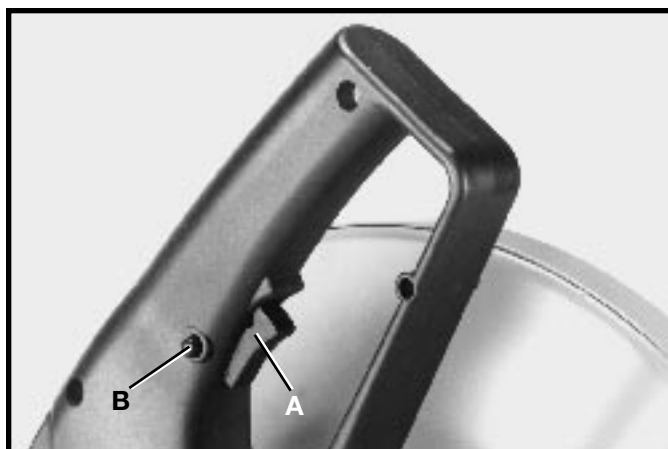

Fig. 8
CONTINUOUS OPERATION – Depress switch trigger (A) Fig. 8, and push in lock button (B). The saw will remain “ON” until the switch trigger (A) is depressed.